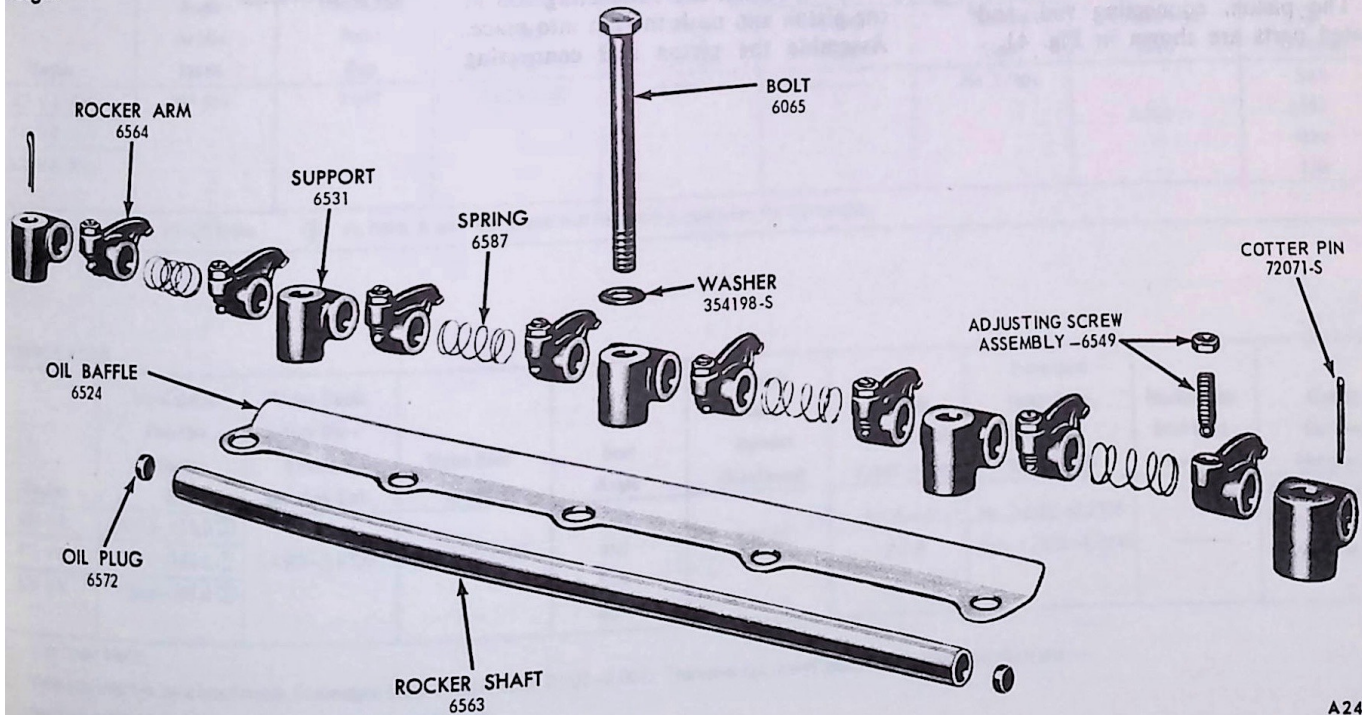

FIG. 39 Rocker Shaft Assembly
3. Install a cotter pin in one end of the shaft; then install the rocker arms, supports, and springs in the order shown in Fig. 39. Complete the assembly by installing a cotter pin in the end of the shaft.